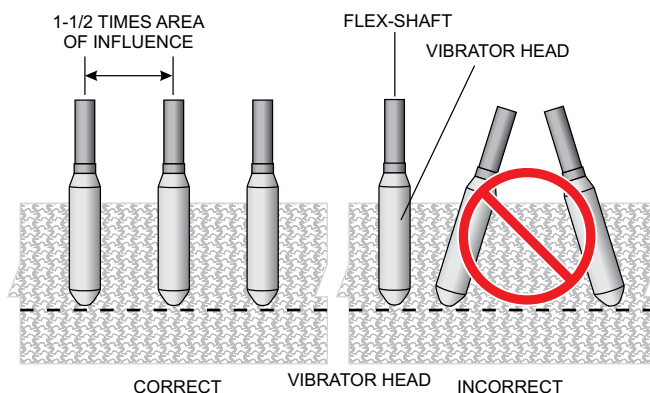

Figure 5. Vibrator Head Insertion
5. Keep flexshaft (Figure 5) straight as possible when operating. Sharp bends increase the load on the core and drive motor, which will result in early core failure and possible damage to the drive motor.
11. Re-insert vibrator into mix according to the "area of influence" See Figure 5. Establish a symmetrical overlapping pattern for inserting and removing the vibrator head.